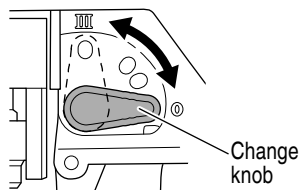

Fig. 6
- (1) This Jig Saw employs orbital operation which moves the blade back and forth, as well as up and down. Set the change knob shown in Fig. 6 to "0" to eliminate the orbital operation (the blade moves only up and down). The orbital operation can be selected in 4 steps from "0" to "III".